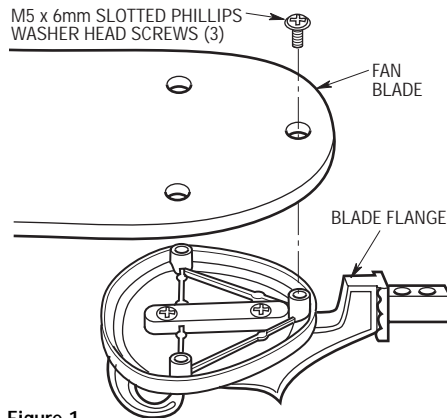

Figure 1
- 1. Mount the fan blades to the blade flanges using three M5 x 6mm slotted Phillips washer head screws (Figure 1).